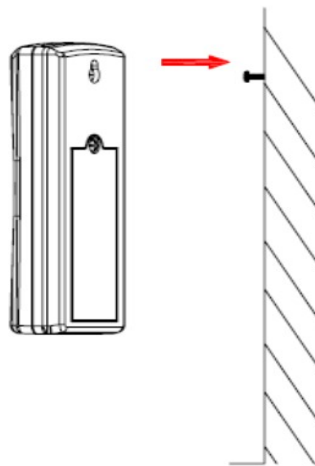

Figure 24
**Note:** If you place the sensor outside, it is recommended you mount it in a shaded area. A north facing wall is preferred because it is in the shade most of the day. Direct sunlight and radiant heat sources will result in inaccurate temperature readings. Although the sensor is water resistant, it is best to mount in a well-protected area, such as under an eave. Use a screw or nail (not included) to affix the remote sensor to the wall, as shown in Figure 24.